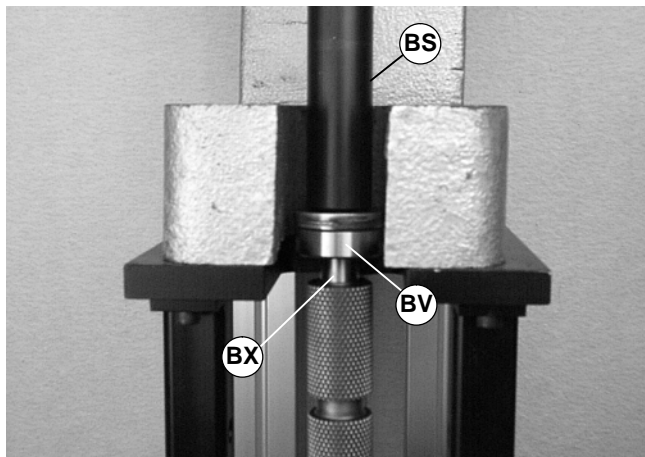

Figure 55
3. Place the shaft of tool (part # 450282) (BS of Figure 55) over pulley shaft (BX).